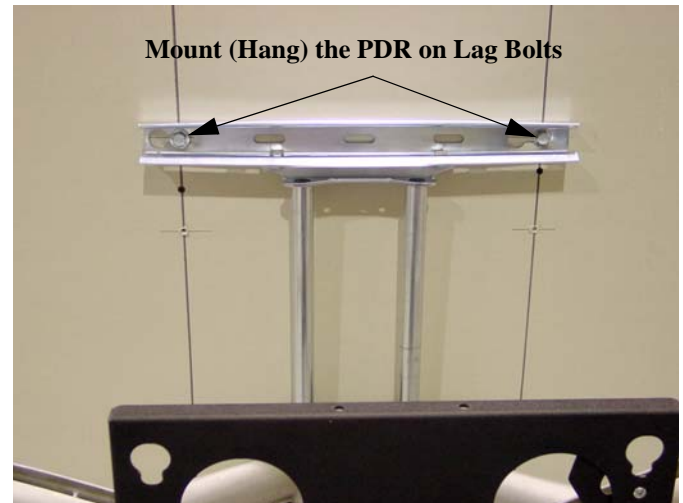

Figure 2. Mount PDR on Lag Bolts
- a. With an assistant, lift and hang the PDR on the two lag bolts and washers previously installed on the wall. See Figure 2.